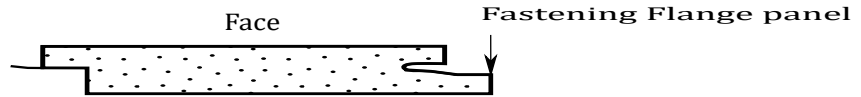

Fig: 4 - TrimLock Wall Panel Exceeding 144" Tall
- The TrimLock panel is intended to be 1 piece vertical installation from the bottom of the building to the soffit so there are no joints in the middle of each panel. On larger walls that do not permit 1 piece install (Exceeds 144") a mid band application is introduced to continue each course upward. Fig 4. A horizontal installation is overlapped 1/2" on joining ends. After the first course, the cut-off at the end of each course can be used as the starter piece on the next course eliminating waste. In some cases, a mid band transition may be required for change of color, change of product, indifferent wall thicknesses, etc. Fig 4.